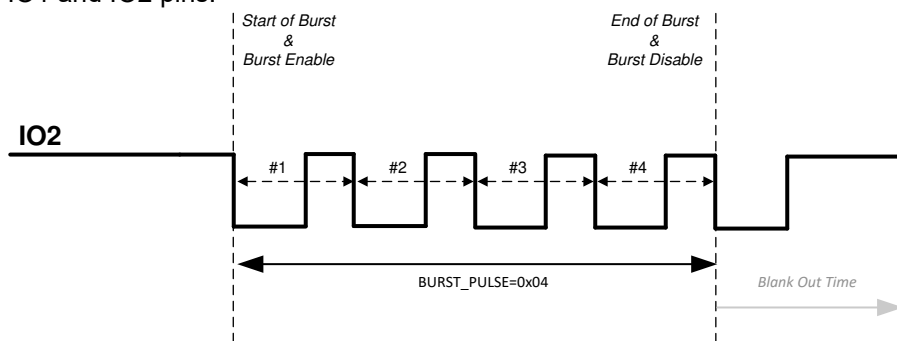

Figure 7-4. IO_MODE 3 Description
- **IO_MODE = 3:** In this mode, burst enable and start of burst are both triggered by the falling edge of IO2. TI recommends that IO2 pin is kept pulled up to VDD for this mode. The device then expects a clock at IO2 pin to generate pulses on the OUTA/OUTB pins (see Figure 7-4). The number of pulses are counted by counting falling edge to next falling edge transitions on IO2 once the start of burst is triggered. End of burst sequence is signaled when the number of pulses defined in **BURST_PULSE** are sent. After end of burst, a blank-out timer interval defined by the **DRV_PLS_FLT_DT** register is started to prevent triggering of a new start of burst in the event if the IO2 pin is still toggling. After the start of burst, the state of OUTA and OUTB pins are determined by IO1 and IO2 pins.